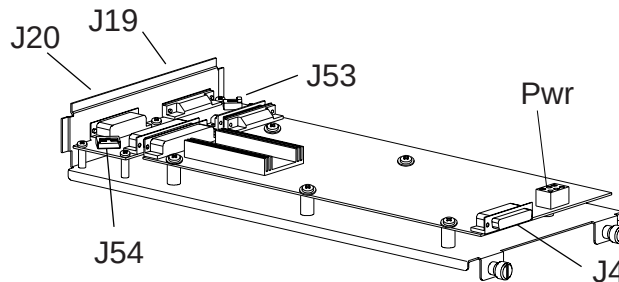

Figure 11 Intercom Assembly
- b.) Using a small flat-blade screwdriver, disconnect the J4 connector from the Intercom Assembly (see Figure 11).